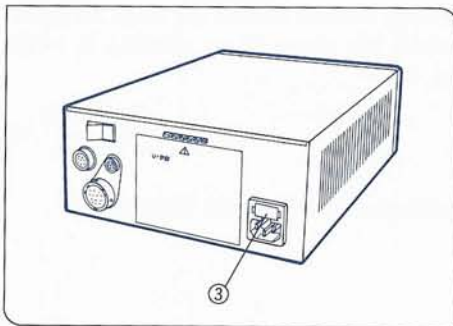

Fig. 20
1. Remove the fuse cassette ③ by squeezing it at both sides and pulling outward. (Fig. 20)